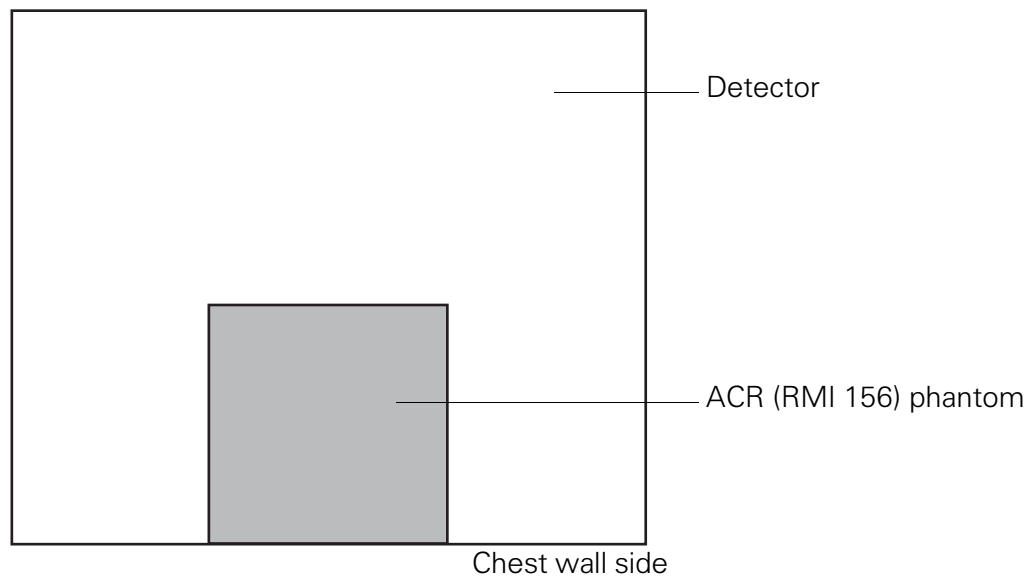

Figure 6 Position of Phantom
4. Position phantom on object table according to Figure 6.